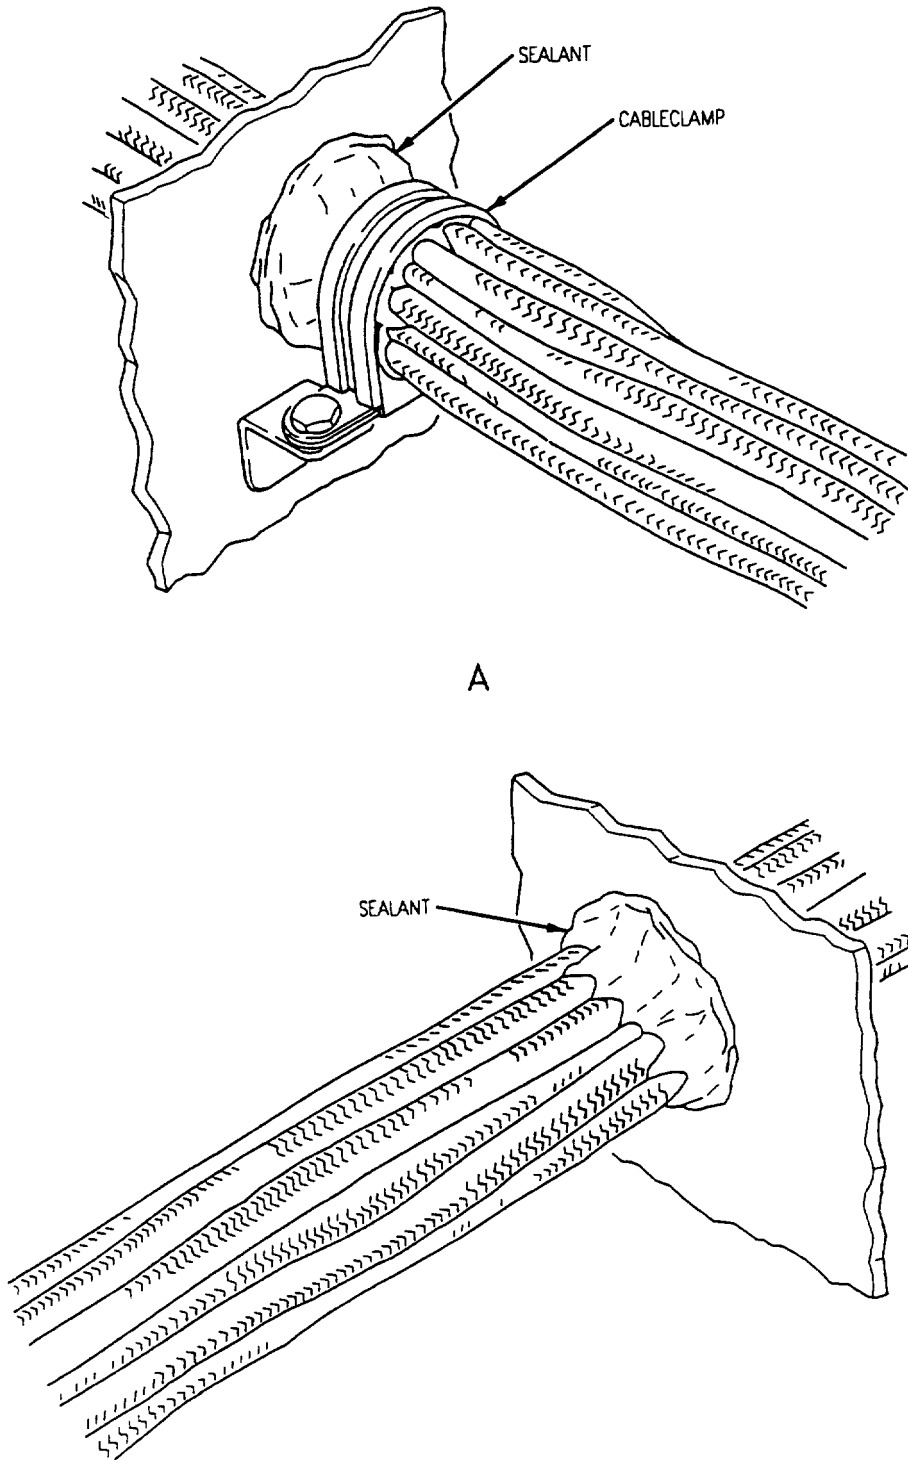

Figure 11. Sealing Cable Assemblies
f. Inject sealant in and around cable assemblies, and under cable clamps (Figure 11, detail A).
h. Apply a fillet of sealant around the cable assembly on both sides of the bulkhead when accessible (Figure 11, details A and B).